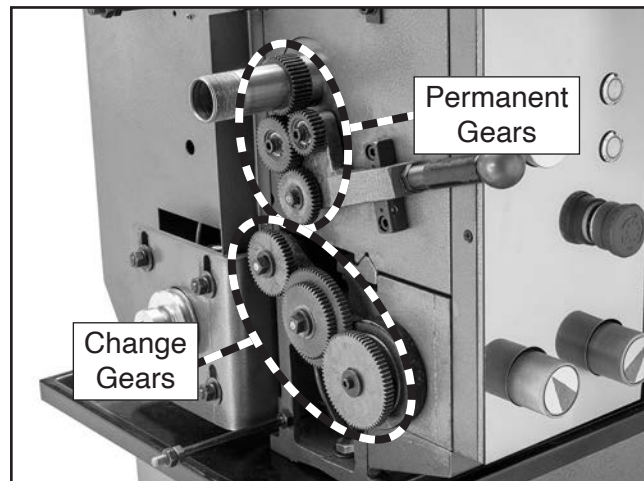

Figure 117. End gears.
7. Remove installed change gears (see **Figure 117**), then thoroughly clean all gears with mineral spirits to remove old grease. Use small brush if necessary to clean between teeth.